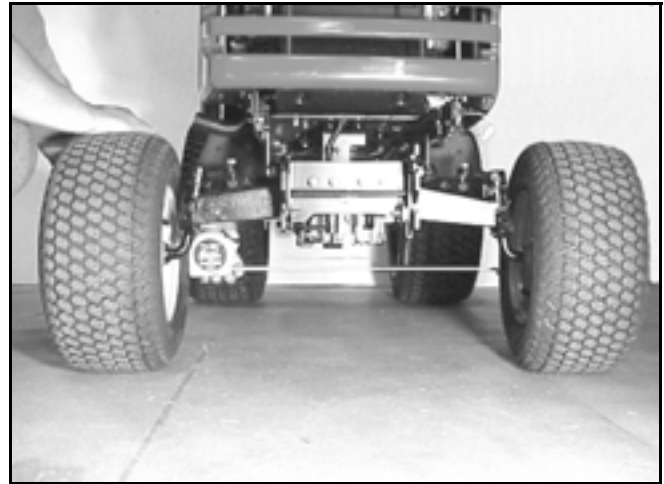

Figure 7
4. The front measurement should be $\frac{1}{8}$ " to $\frac{1}{4}$ " (3mm to 6mm) less than the rear measurement (Figure 7). If needed, follow the adjustment procedure.